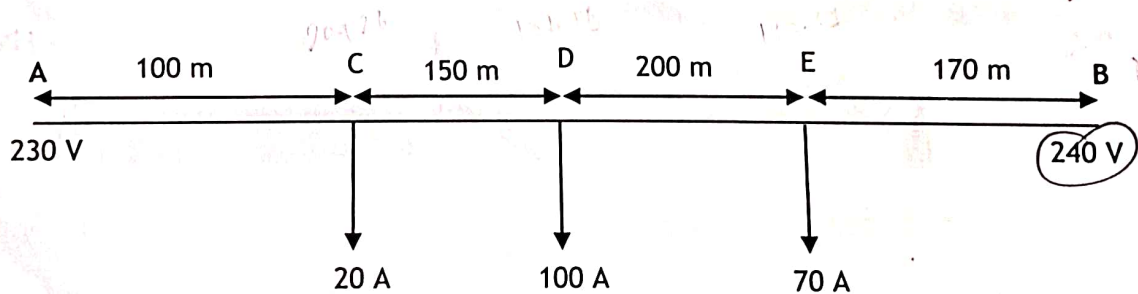

Fig Q1
1. Fig. Q1 represents a ring main system of total length 620 m and resistance (go + return) of $0.002 \Omega/\text{m}$.